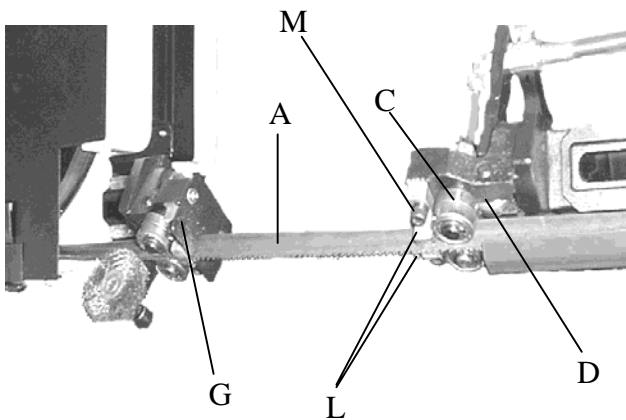

Fig.1
1. Adjust the tension of blade until the back of the blade(A) against the blade wheel (front) lightly.
2. Be sure the nut (E) is tightened.
3. Turn the eccentric shaft(B) counterclockwise, when the bearing(D) touches the saw blade properly, tighten the nut(E).
4. To adjust, loosen set screw(F) and move the blade adjustable up or down until it lightly touches the back of the blade(A).
5. The carbide blade guides(L)Fig.1,should also be adjusted so they lightly touch the blade by loosening screws(M).
8. Set down the blade frame, correct the jaw vise(H) and blade to be a vertical position with a scale then tighten the set screws(I).
9. Loosen set screw(K), move front jaw vise(J) to against rear jaw vise(H) tightly. Finish correcting by tightening set screw(K)